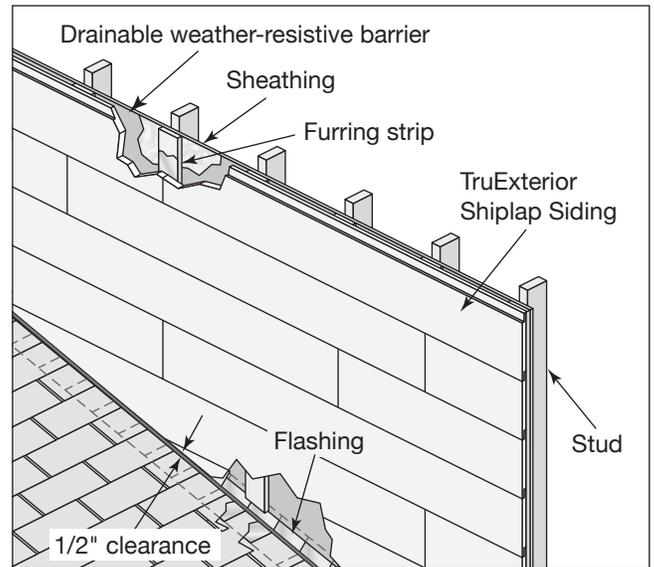

Fig. 40
- Install step flashing behind the weather barrier and furring strip and allow a 1/2" clearance from the bottom edge of the siding to the roof to allow for air flow and water drainage (**Fig. 40**)